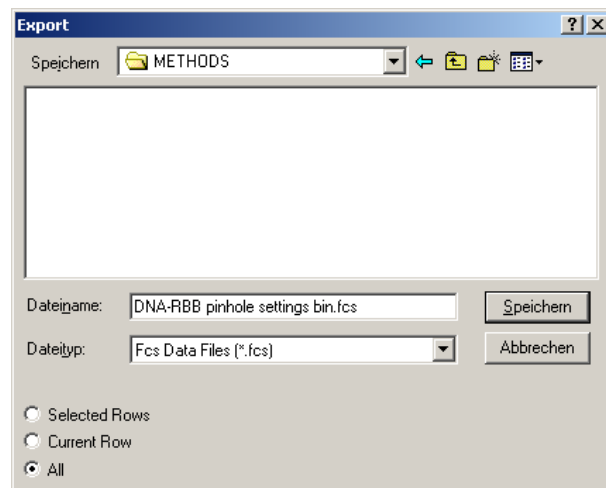

Fig. 4-127 Export window
- With **Export**, the measured data will be exported in a ConfoCor 1-compatible format and can be handled using the FCS Access Fit program. In the **Export** window (see Fig. 4-127) you can enter a name in the **File name** field and a type in the **Data type** field. In the **Save** pull down menu you can select a directory. You can specify if only the Selected rows (highlighted), the Current row (the current selected one) or all rows are exported. Exported files can be opened again with the **Open FCS** button. All selected files will be loaded in one **Correlation display** window.